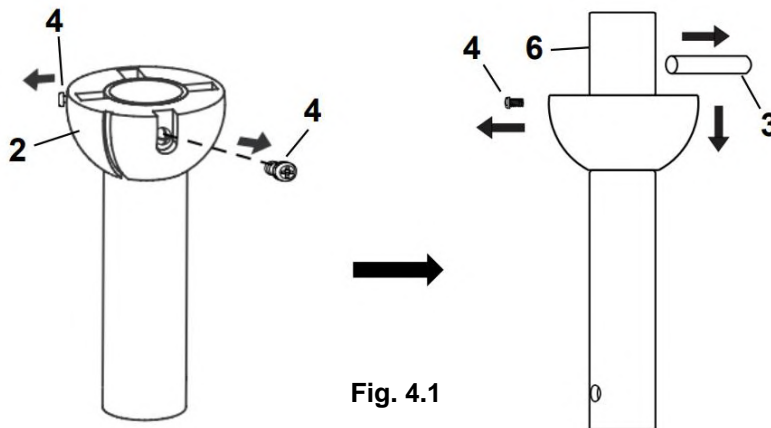

Fig. 4.1
1. Remove the ball joint (2) and dowel pin (3) by loosening the set screws (4) from the down rod (6). (Fig. 4.1).